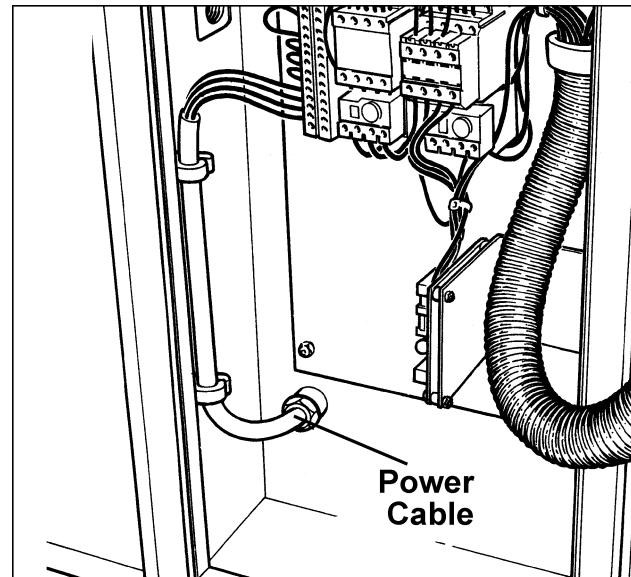

FIGURE 6
- Remove the electrical control panel cover with a hex wrench and introduce the cable, shown in Figure 6.